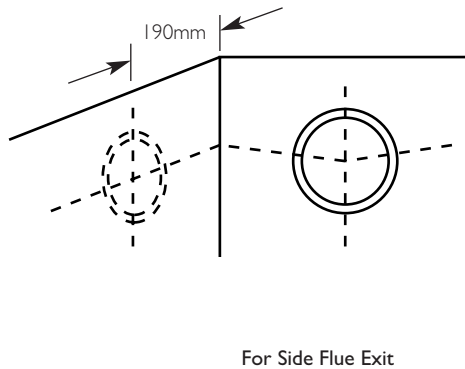

Fig. 30
3. Mark the position of the centre of the flue hole (rear exit). For side flue exit, mark as shown (Fig. 30).